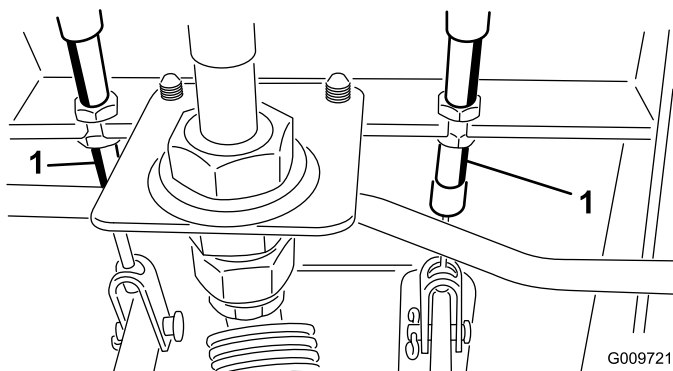

Figure 79
- A. Loosen the front nut on the threaded end of the brake cable (Figure 79).